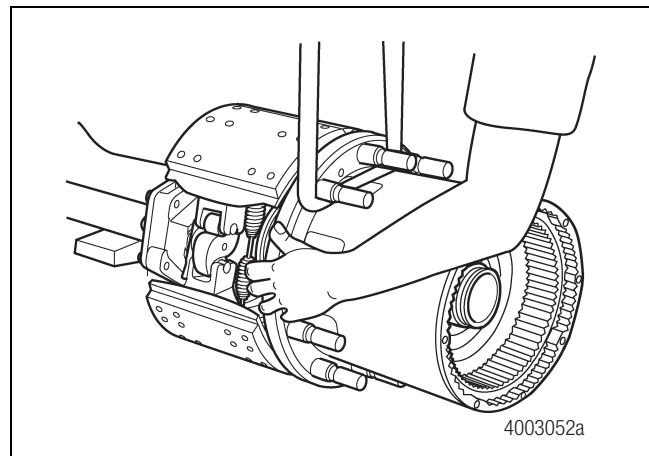
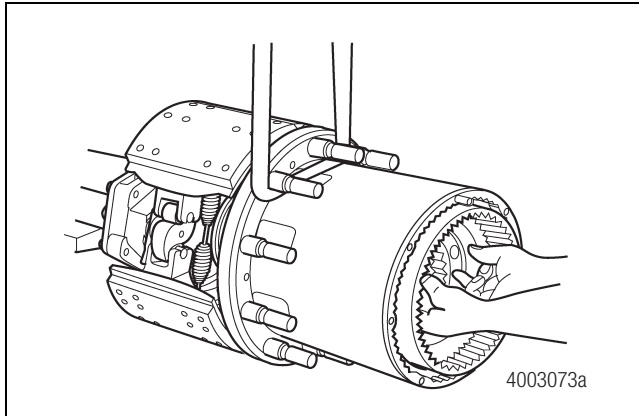

Figure 3.39
Figure 3.40
3. Use a lifting device to install the wheel hub. With the hub still in the lifting device, install the ring gear and ring gear hub assembly making sure the bearing cone on the ring gear hub assembly stays in place. Figure 3.39 and Figure 3.40.